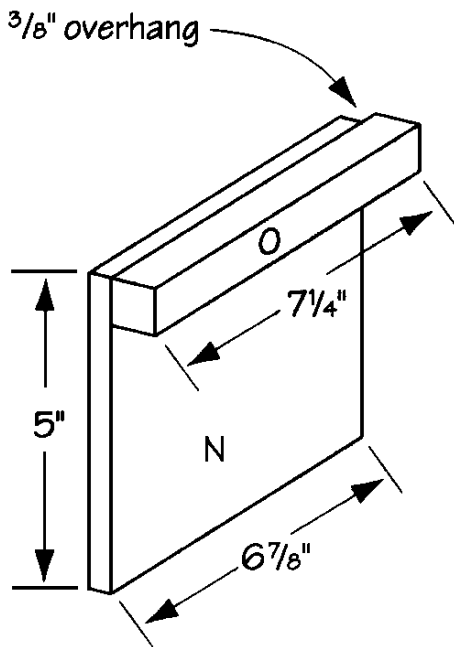

Figure 9
1. Cut two drawer sides (N) from 3/8" exterior plywood, each measuring 5 x 6-7/8 inches.
2. Cut two drawer glides (O) from 1 x 1 pine, each 7-1/4" long. To allow the drawers to slide without binding, plane or rip the drawer slides (O) on one side so they measure 1 1/16 x 3/4 inch.
3. Apply glue to the meeting surfaces, and attach one drawer glide (O) to one 6-7/8" edge of a drawer side (N), using three 1"-long finishing nails, as shown in *Figure 9*. Note that the drawer glide (O) extends past the drawer side (N) by 8/8" on one end.